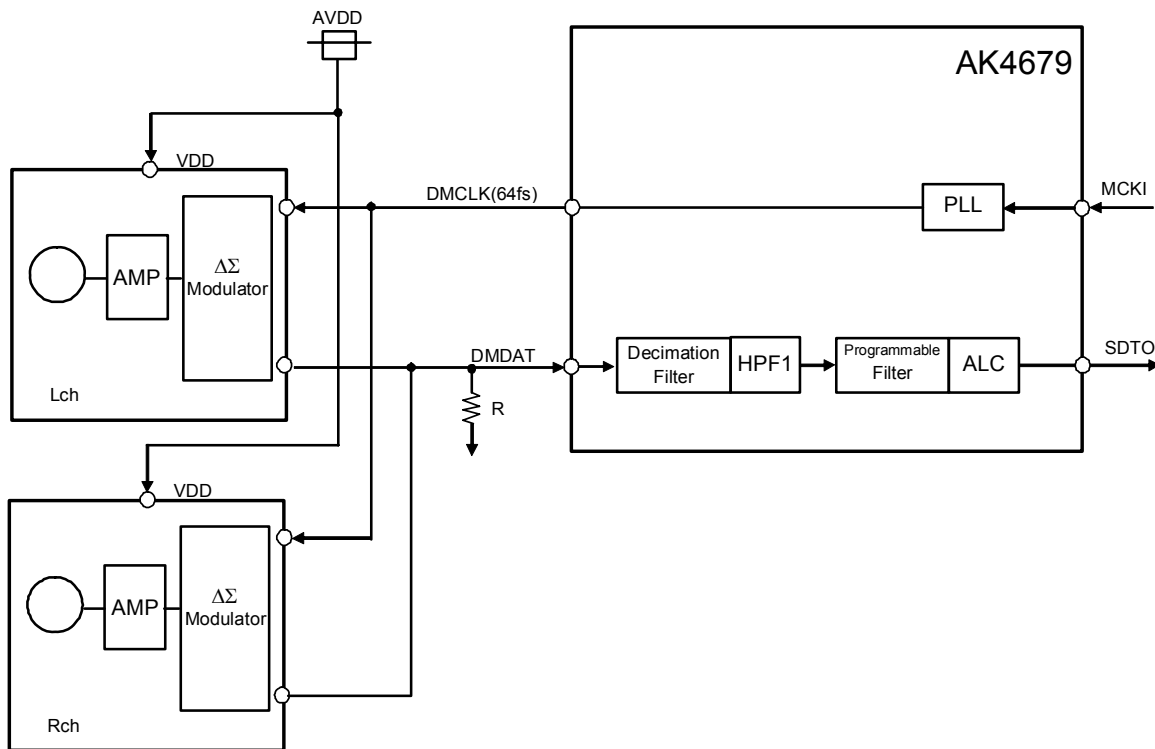
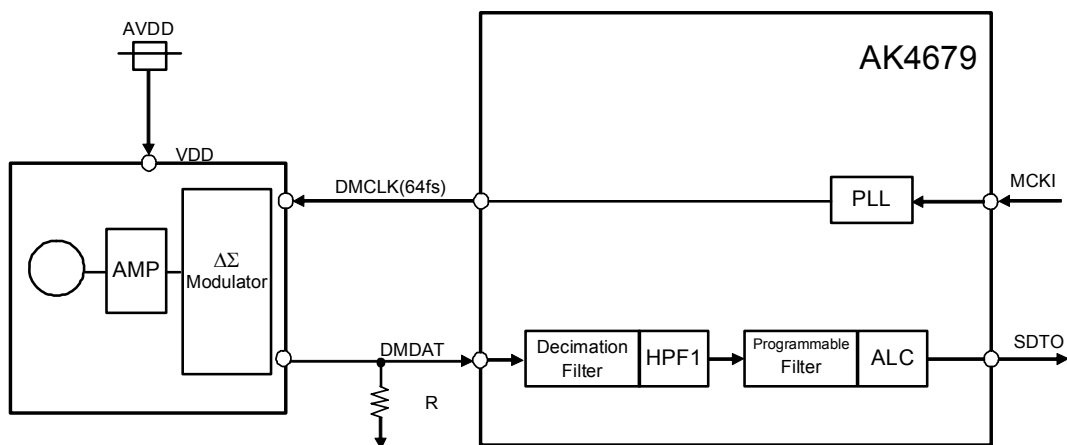

Figure 57. Connection Example of Stereo Digital MIC
Figure 58. Connection Example of Mono Digital MIC
The AK4679 can be connected to digital microphone by setting DMIC bit = “1”. When DMIC bit is set to “1”, the LIN1 and RIN1 pins become DMDAT (digital microphone data input) and DMCLK (digital microphone clock supply) pins respectively. The same power supply as AVDD must be provided to the digital microphone. The Figure 57 and Figure 58 show mono/stereo connection examples. The DMCLK signal is output from the AK4679, and the digital microphone outputs 1bit data, which generated by $\Delta\Sigma$ Modulator, from DMDAT. PMDML/R bits control power up/down of the digital block (Decimation Filter and HPF1). PMADL/PMADR bits settings do not affect the digital microphone power management. The DCLKE bit controls ON/OFF of the output clock from the DMCLK pin. When the AK4679 is powered down (PDNA pin= “L”), the DMCLK and DMDAT pins are pulled-down by internal 2.7k Ω (typ.) resistor. However, when the AK4679 is powered-up (PDNA pin = “H”), path of the internal pulled-down resistor is OFF. Therefore, external pull-down resistor(R) should be connected to the DMDAT pin to avoid floating state.